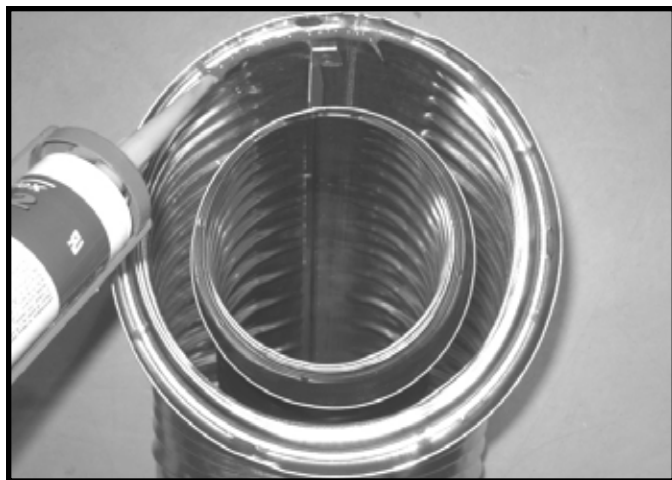

Figure 7.1 High Temperature Silicone Sealant
- Apply a bead of silicone sealant (300°F minimum continuous exposure rating) inside the female outer pipe joint prior to joining sections. See Figure 7.1. **OR**